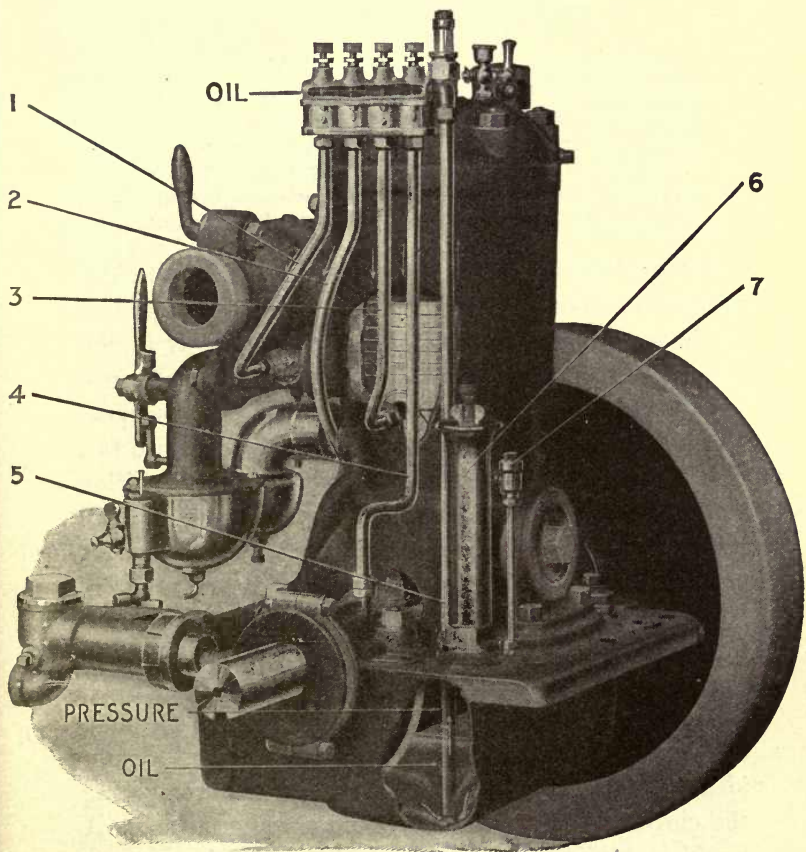

Fig. 76.—"Ferro" Lubricating System
A unique and very compact as well as highly satisfactory system of oiling is used in the well-known Ferro motors. This is well shown in the sectional view illustrated (Fig. 76), and consists of an oil tank in the base of motor and cast integral with it. This is filled by means of a filler tube (6) which rises from the base. A short tube fitted with a check valve connects the crank case with the tank and from the latter another tube (5) leads upward to the sight-feed distributor at top of cylinder. From the distributor various feed pipes lead to the points requiring oil. In operation the pressure in the crank case causes enough air to pass through the check valve into the oil reservoir to force the